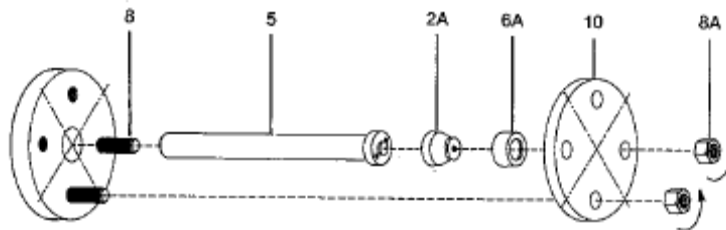

FIGURE 12
5.1.2.1.2 Pressure Seal Cover (Fig 12)